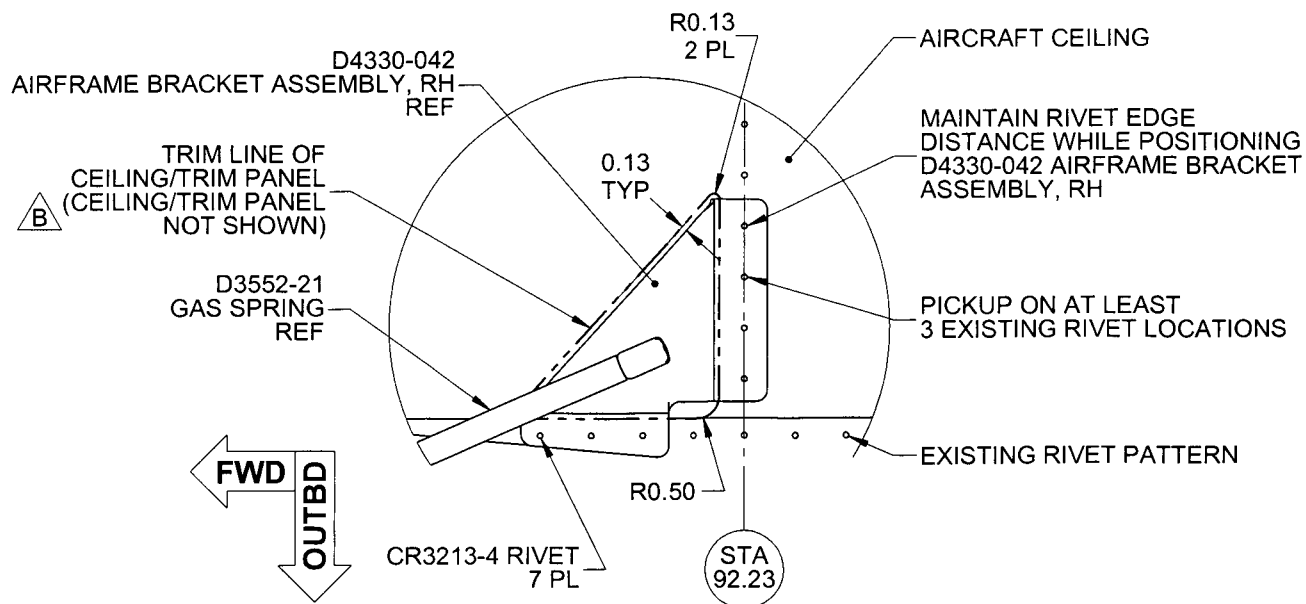

FIGURE 3: LOCATION OF D4330-042 AIRFRAME BRACKET ASSEMBLY
8. Locate D4330-042 Airframe Bracket Assembly, RH on the aircraft ceiling per Figure 3. Transfer drill #30 ($\phi 0.129$ ") holes from the ceiling to D4330-042. Deburr holes.
11. Apply a thin layer of Proseal 890 (or equivalent) to faying surface of the D4330-042/-3 brackets. Install the D4330-042 Airframe Bracket Assembly, RH using CR3213-4 rivets as shown in Figure 3. Install D4330-3 Door Bracket using hardware as shown in Figure 6.
12. Pre-install the ceiling or trim panels that were removed in Step 1 and transfer mark contour of D4330-041 or -042 as shown in Figure 3 (SHT 6). Remove ceiling or trim panels and perform cutout to clear D4330-041 or -042. Touch-up finish of ceiling or trim panels cutout area in accordance with aircraft maintenance manual and re-install any ceiling or trim panels.